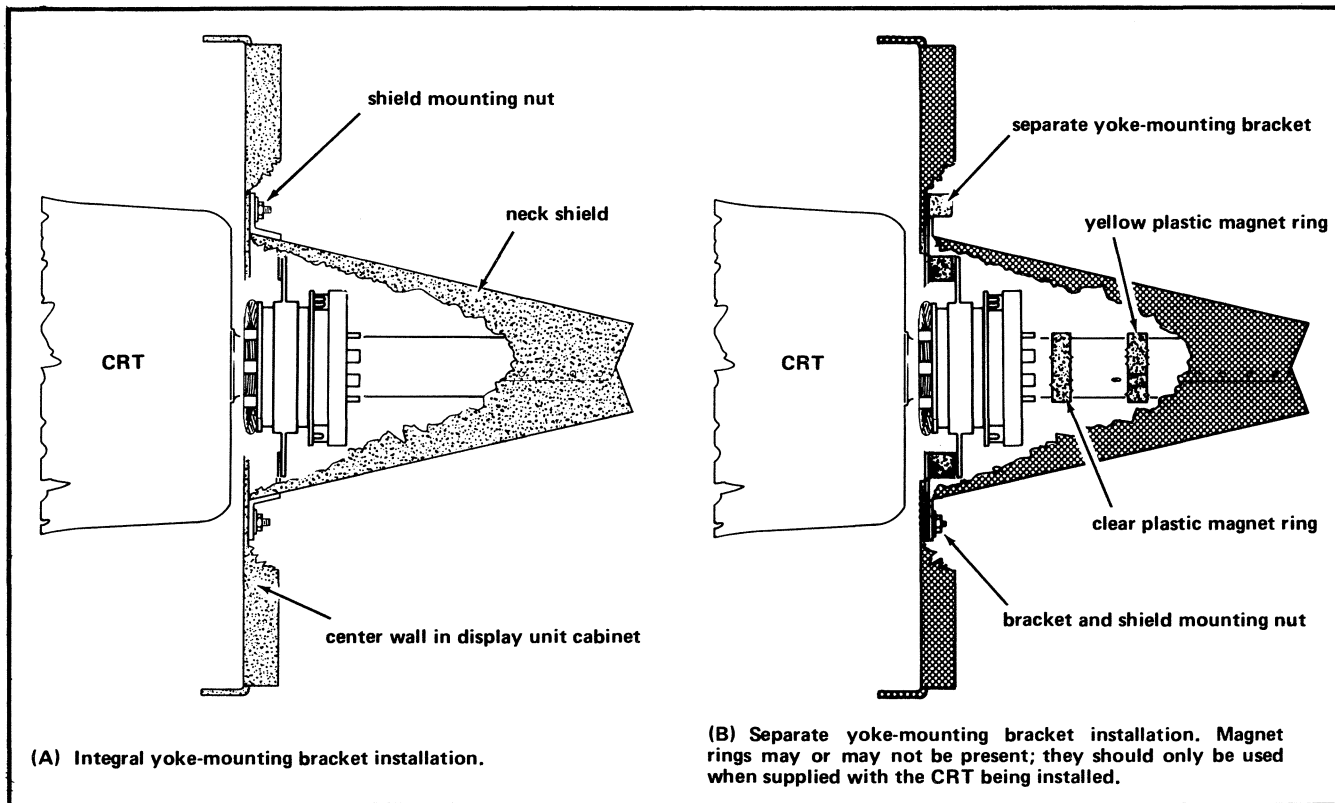

Fig. 3-2. The two types of yoke-mountings.
**Introduction.** There are two types of yoke-mounting hardware in use in the Terminal. The original type (integral yoke-mounting bracket) is shown in Fig. 3-2(A). Fig. 3-2(B)